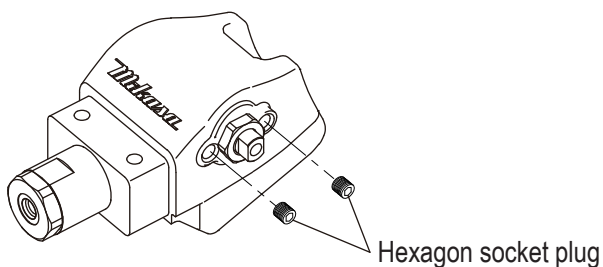

Fig. 3
- c. Remove the hexagon socket plug. (Fig.3)